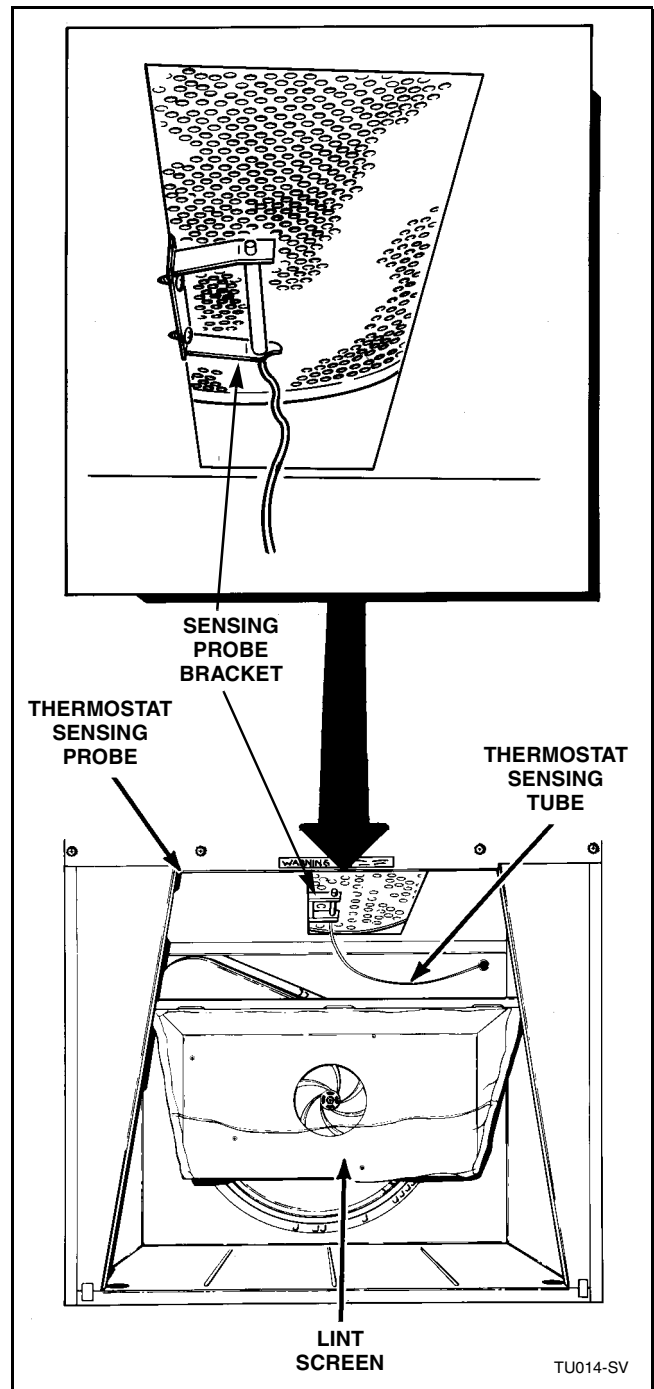

Figure 18
- Spread locking tabs on sensing probe bracket. Refer to *Figure 18*.